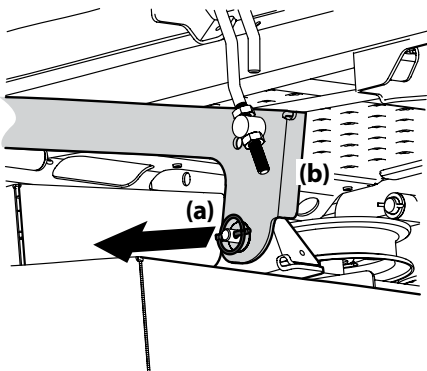

Figure 4-13
6. Locate the LH and RH deck release pins (a) on each side of the deck. Pull the deck release pins (a) outward and release the deck from the LH and RH deck lift arms (b). See Figure 4-13.
5. Pull the deck release pins outward and maneuver the deck as necessary to align the holes in the deck lift arms with the pins. Refer to Figure 4-13.